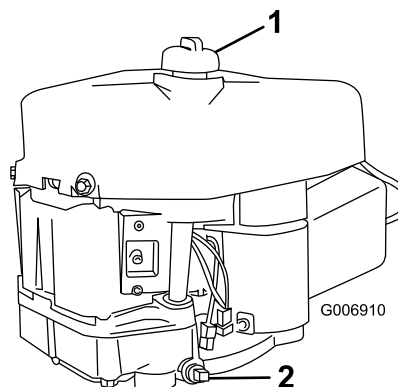

Figure 18
6. Clean around the oil dipstick (Figure 18) so that dirt cannot fall into the fill hole and damage the engine.
7. Place a drain pan below the oil drain plug and remove it (Figure 18).
10. Slowly pour approximately 80% of the specified amount of oil into the fill hole (Figure 18). Check the oil level; refer to 4 and 5 of Checking the Oil Level.
6. Slowly pour about 80% of the specified amount of oil into the fill hole (Figure 18). Check the oil level; refer to 7 and 8 of Checking the Oil Level.